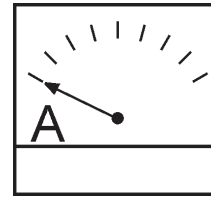

Figure 45. Ammeter (No Load)
- The ammeter (Figure 45) will indicate **zero amps** with no load applied. When a load is applied, the ammeter will indicate the amount of current that the load is drawing from the generator.